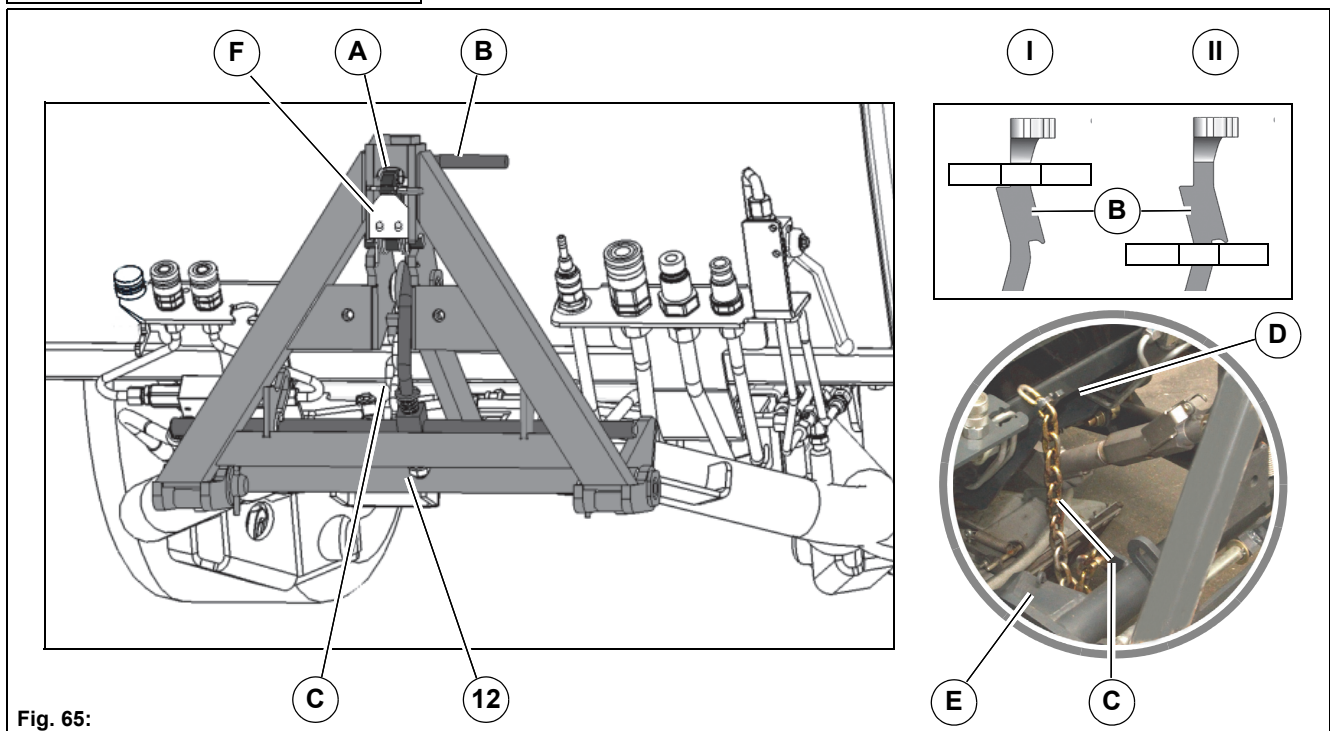

Fig. 65:
1. Bring the locking hook into the front position and the lever into the lower position (I).
2. The movement limiter of the front tool carrier is determined by the chain **Fig. 65-C** and the hooking point of the chain.
- For vacuum sweeping, hook the chain in the holder **Fig. 65-D** with the first link.
- For attachments with floating position the chain must be hooked onto the hook **Fig. 65-E!**
3. Check the locking plate **Fig. 65-F** on the attachment. If necessary, loosen the screws and shift the locking plate.